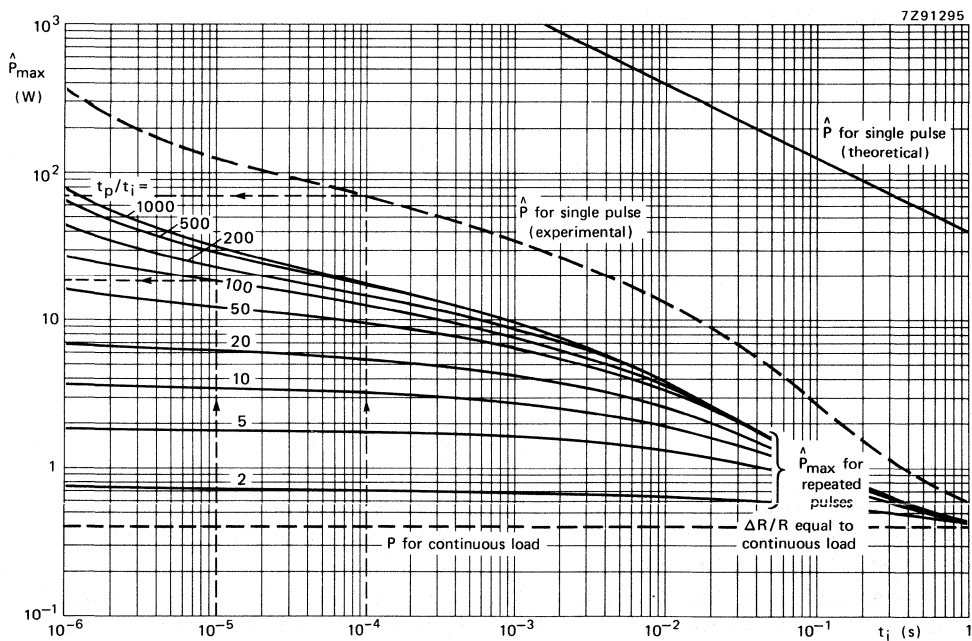
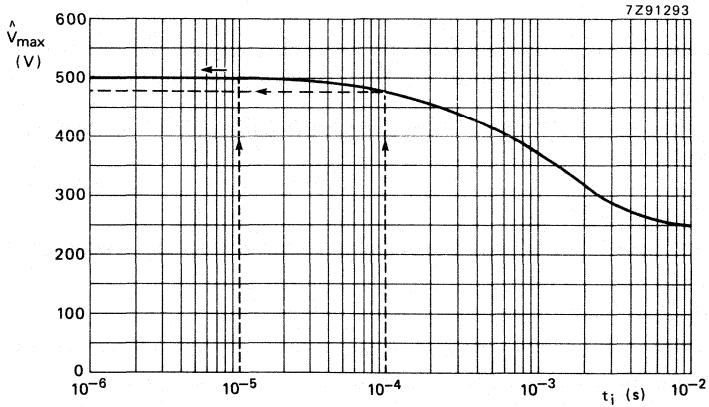

Fig.8 Max. permissible peak pulse power ( $\hat{P}_{max}$ ) as a function of pulse duration ( $t_i$ ) for a typical resistor.
Fig.9 Max. permissible peak pulse voltage ( $\hat{V}_{\max}$ ) as a function of pulse duration ( $t_i$ ) for a typical resistor.
Knowing the thermal characteristics of a resistor, it is possible to calculate the load due to a single pulse which will cause a resistor to fail by going open circuit. This theoretical maximum can be expressed in terms of peak pulse power,  $\hat{P}$ , and pulse duration,  $t_i$ , the straight line in Fig. 8 is a typical example for a film resistor. In practice, however, owing to variations in the resistance film, substrate, or spiralling, resistors fail at loads less than this theoretical maximum; the dashed line in Fig. 8 shows the observed maximum for a resistor under single-pulse loading.
Using a computer program which takes account of all factors affecting resistor behaviour under pulse loads, curves similar to those of Fig. 8 are being produced for all our resistor ranges.
Measurements have shown that the calculated value is accurate to within 10% of the true value. However, maximum peak pulses as indicated in Fig.9 should not be exceeded.
- $\hat{P}_{\max}$  = max. permissible peak pulse power (see Fig. 8)
- $\hat{V}_{\max}$  = max. permissible peak pulse voltage (Fig. 9)
The graphs of Figs 8 and 9 may be used to determine the maximum pulse loading for a resistor. The calculations assume:
- $\frac{\hat{V}_i^2}{R}$  must be lower than the value of  $\hat{P}_{max}$  given by the solid lines of Fig. 8 for the applicable value of  $t_i$  and duty cycle  $t_p/t_i$ .
- $\hat{V}_i$  must be lower than the value of  $\hat{V}_{max}$  given in Fig. 9 for the applicable value of  $t_i$ .
- $\frac{\hat{V}_i^2}{R}$  must be lower than the value of  $\hat{P}_{max}$  given by the dashed line of Fig. 8 for the applicable of  $t_i$ .
Fig. 1 gives  $\hat{P}_{\max} = 19\ \text{W}$  and Fig. 9 gives  $\hat{V}_{\max} = 500\ \text{V}$ . As the operating conditions  $\hat{P} = 16\ \text{W}$  and  $\hat{V}_i = 40\ \text{V}$  are lower than these limiting values, this resistor can safely be used.
The dashed curve of Fig. 8 shows that at  $t_i = 10^{-4}\ \text{s}$ , the permissible  $\hat{P}_{\max} = 70\ \text{W}$  and Fig. 9 shows a permissible  $\hat{V}_{\max}$  of  $480\ \text{V}$ , so again this resistor may be used.